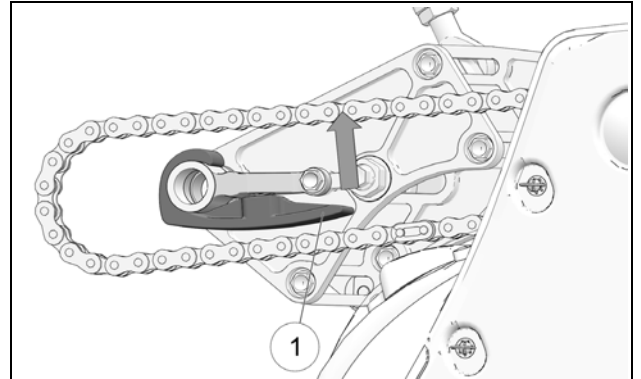

Figure 35
- Lift automatic chain tensioner (1) off the chain and keep it up (e. g. with a zip tie) to avoid adding tension to the chain during adjustment. See Figure 35.